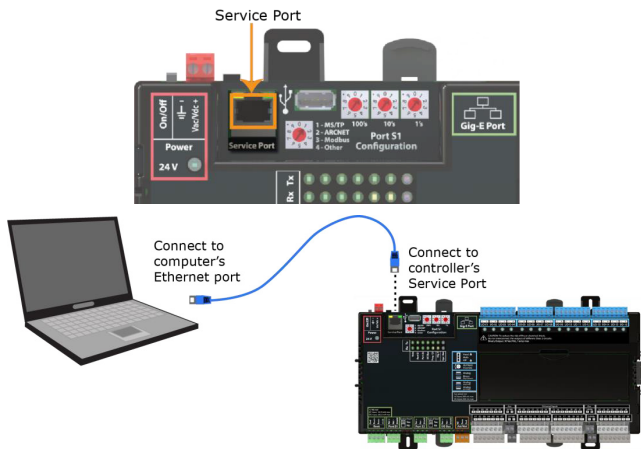

Fig. 14 — Service Port Connection
1. Connect an ethernet cable from a computer to the controller's Service Port (see Fig. 14).
NOTE: Be careful NOT to plug your cable into the Service Port. See Fig. 14.